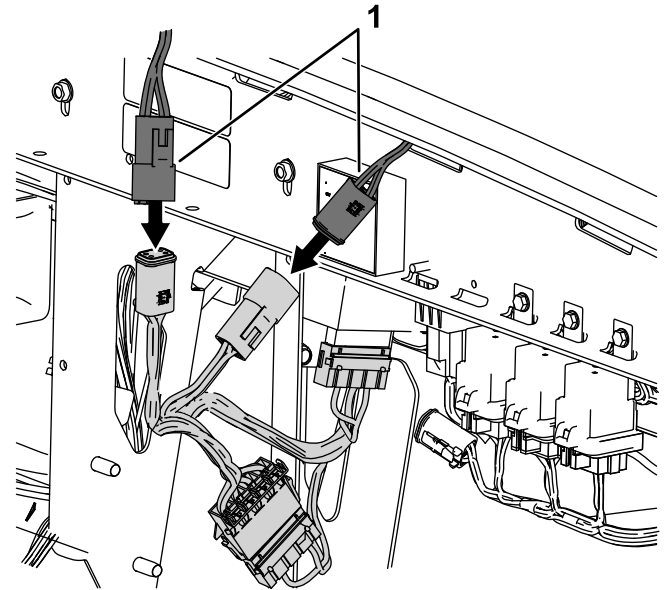

Figure 28
5. Connect the loose square plug on the power converter wire harness to the cab adapter wire harness (Figure 28).
6. Connect the loose square socket on the power converter wire harness to the cab adapter wire harness (Figure 28).